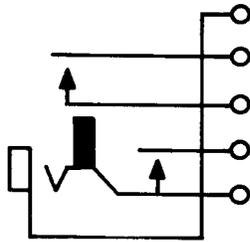

Fig. 13—297A or C Jack
2.13 **297A and C:** These single-mounted jacks (Fig. 13) are used with 1D, 1E, 153, 209, 241, 305, 327, 328, 347, 373, and 464 plugs.